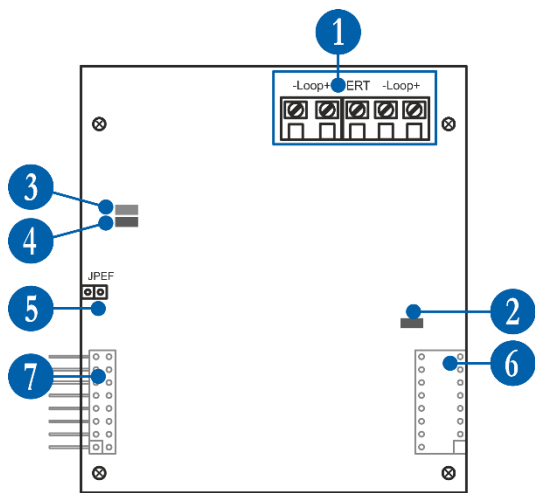

Figure 20
The MAGPRO96-L250 Loop Expander (see item 4.3.2, Figure 20) realizes the connection between the Output Module and devices connected to the communication line.